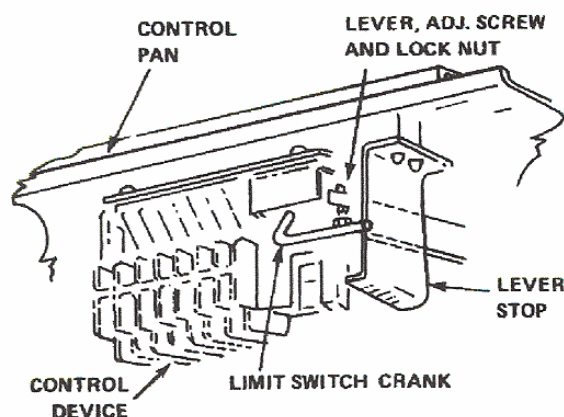

Fig. 7 - Control Relay
5.10 CONTROL RELAY ADJUSTMENT (See Figure 7)